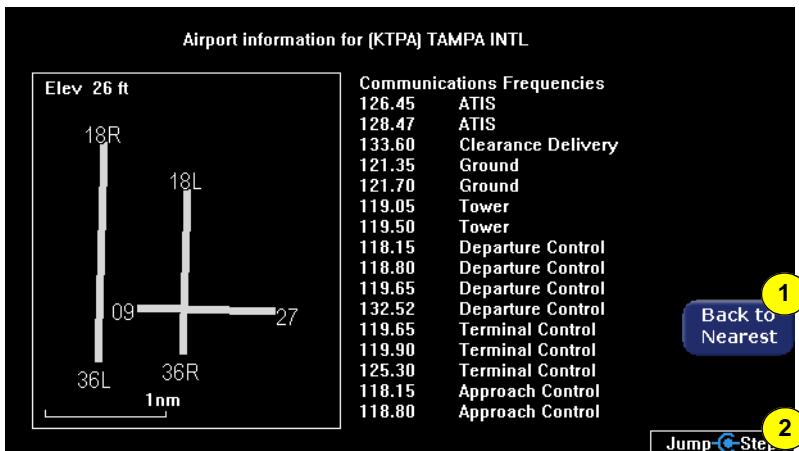

Figure 8.2 NRST Airport Information Page
- 3) **Airport Info** - Provides quick access to airport information for the airport highlighted. Airport Info displays a page similar to Figure 8.2 on page 81.